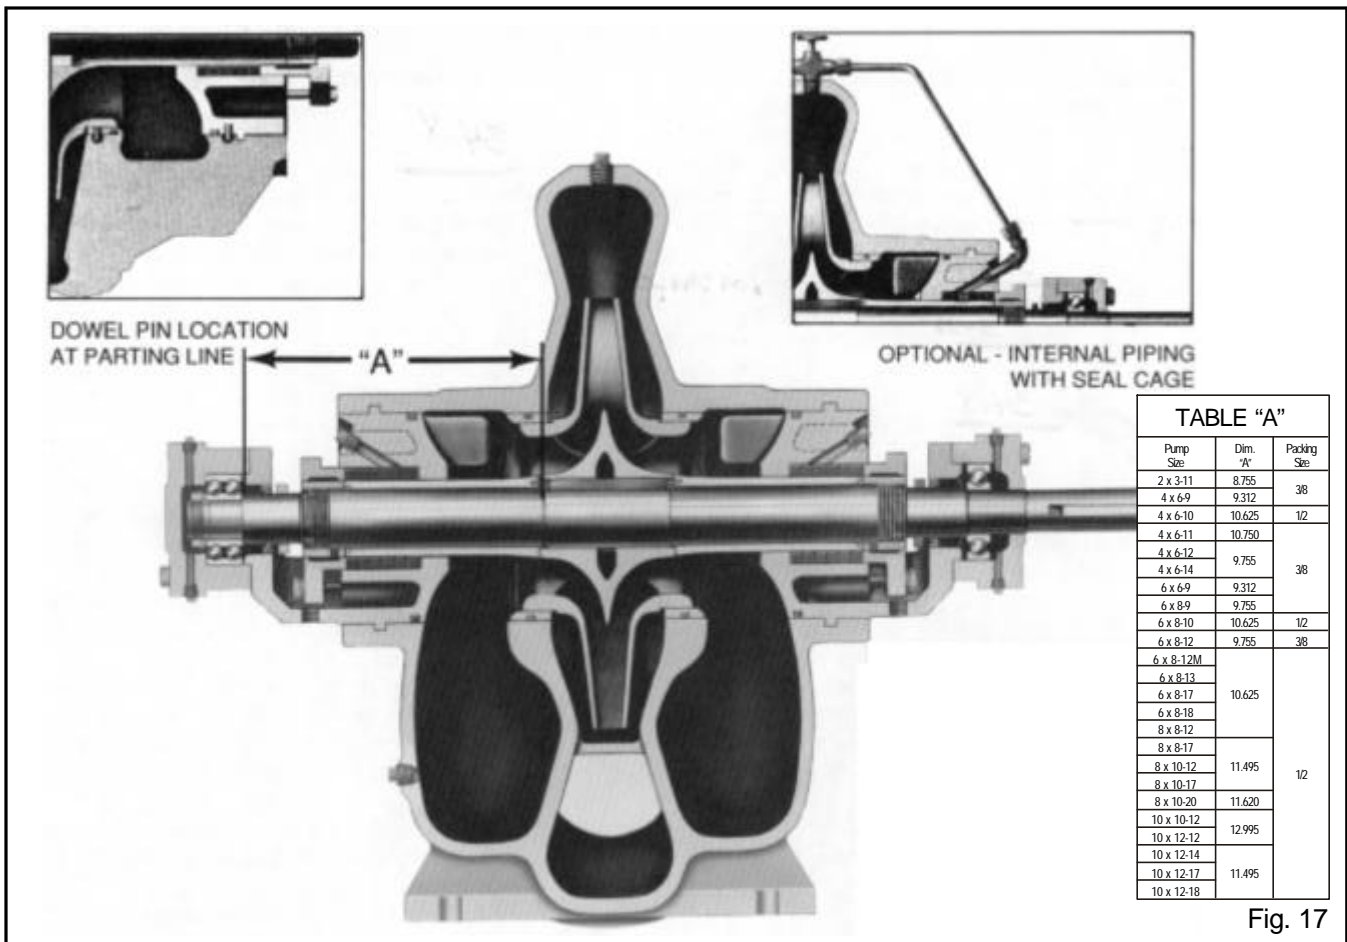

Fig. 17
- Assemble the impeller key (3-911-1) in the shaft key slot.
- Check the impeller (4-002-0) and casing to determine the correct relationship (See Fig. 16) and locate the impeller on the shaft per dimension "A" given in the table on Fig. 17.
- Install 12 full rings of packing (6 per stuffing box) so that the ends butt, leaving no gap between the packing and the stuffing box. (Refer to the table in Fig. 17 for packing size.) Tamp the packing fully to the bottom of the stuffing box. Stagger the joints of each packing ring at least 90 degrees. For 3 adjacent rings, use the 4, 8 and 12 o'clock positions.